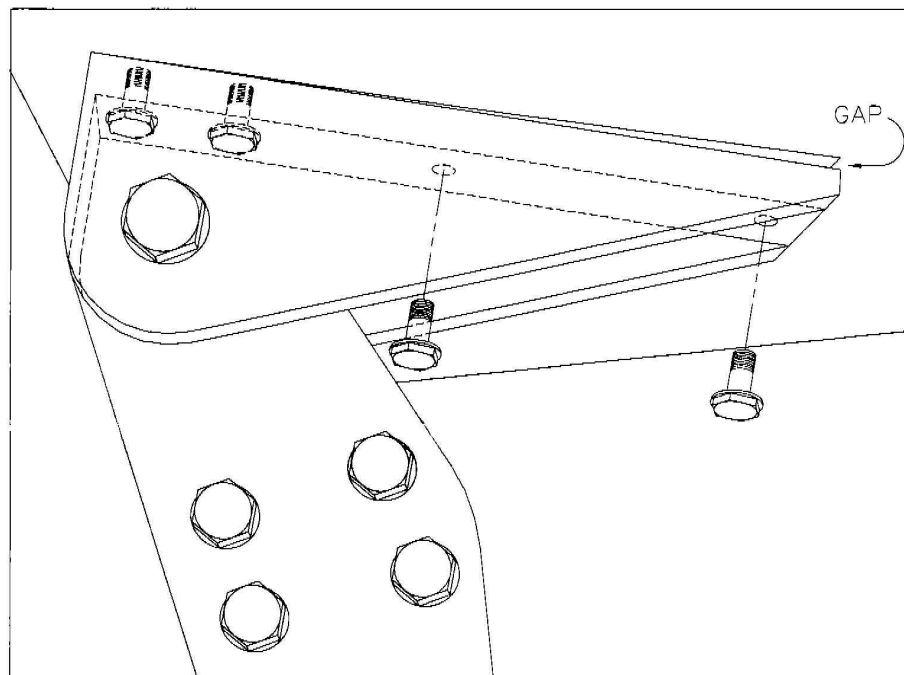

Figure 2 - Rear Pivot Attachment
- (b) Unscrew the two front bolts from each pivot attachment, leaving the rear two bolts done up tight, as shown in Figure 2 below. Anchor nuts were used to retain these bolts on early aircraft. Later aircraft have loose nuts and washer, access to which can be gained through the upper Horizontal Stabiliser access panel.
- (c) If a gap appears, as indicated in Figure 2 above, manufacture a tapered packer from 2024-T3 Aluminium sheet metal, 1.25" wide and as long as required to fill the gap.